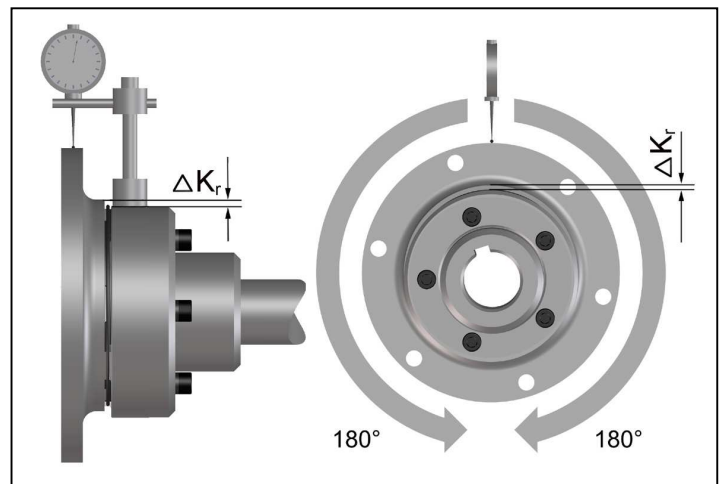

Fig. 8
- Measure one complete revolution (360°) on the face of the outer diameter. Determine the largest deviation  $\Delta K_{r1}$  and the smallest deviation  $\Delta K_{r2}$  (Fig. 8).